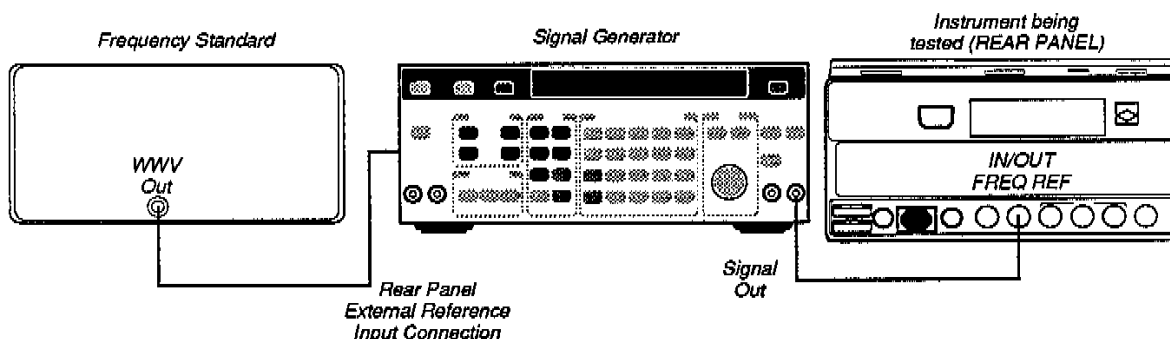

Figure 4-20. Test Equipment Connection for External Frequency Reference Check.
2. Connect a 50 Ω cable from the FREQ REF (IN/OUT) connector on the rear panel of the instrument to the output of the signal generator (as shown in Figure 4-20).